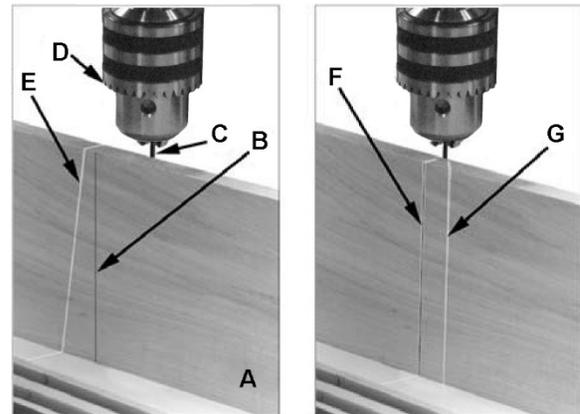

Figure 8-8
1. Take a length of board (A, Figure 8-8) and draw a perpendicular line (B) on one side using a square.
2. Secure a small drill bit (C) in chuck (D), then place board (A) on the table on edge against drill bit with the marked-line side toward the back of the drill press.
Important: The table should be in horizontal position and locked. *Verify that the line (B, Figure 8-8) is perpendicular to the table.*
5. Adjust the opposite laser in the same manner. Two parallel laser markings should look like F and G in Figure 8-8. The distance between the lines will vary with board thickness; however, the lines must be parallel.